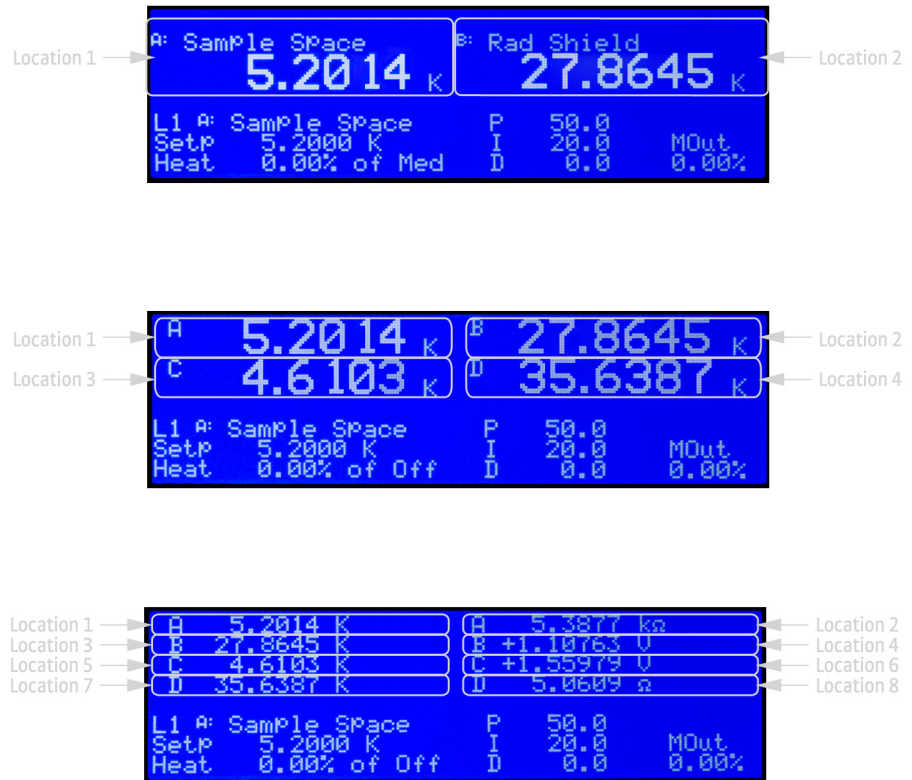

FIGURE 4-5 Top to bottom: Model 350 screen images showing 2, 4 and 8 display locations
- **Locations:** depending on the Number of Displays parameter, there can be anywhere from two to eight display locations for displaying sensor readings. The placement of a given display location on the front panel LCD depends on the Number of Displays setting (FIGURE 4-5).